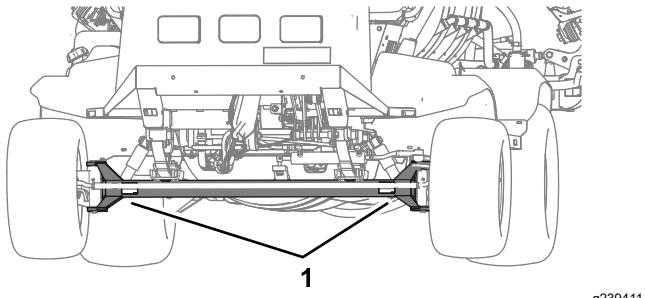
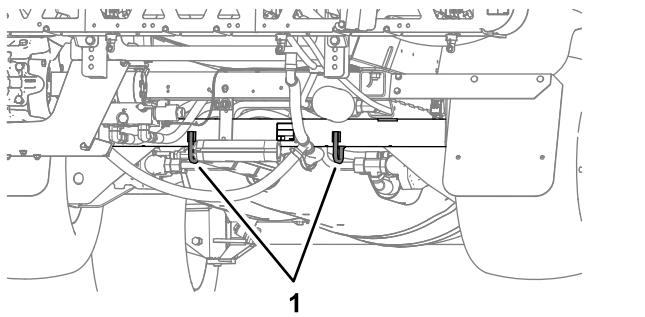

Figure 53
Figure 54
- Bind the machine securely to the transport vehicle; Figure 53 and Figure 54 illustrate the tie-down points of the machine.